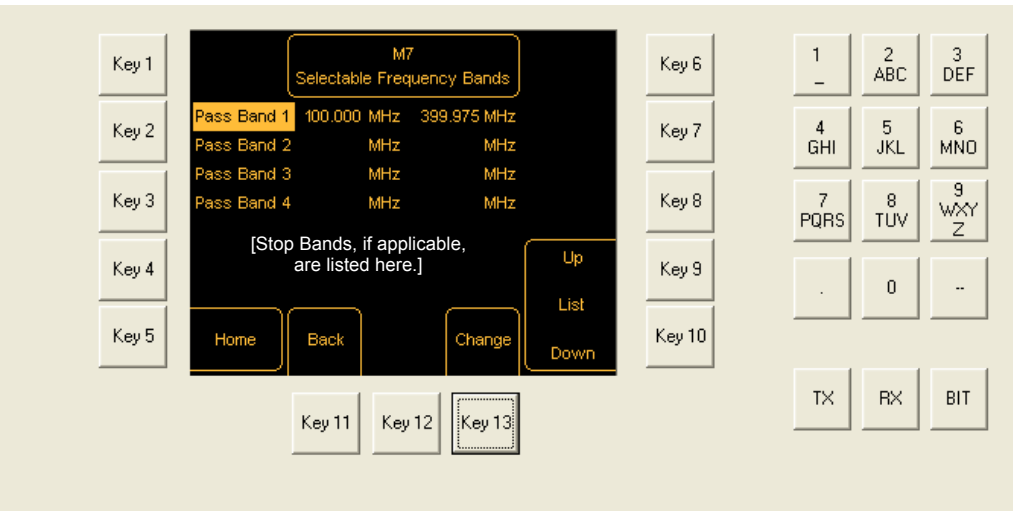

Fig 3-31 List of Pass Bands
Stop bands are factory set and cannot be created or changed by a user. Stop bands, if applicable, are listed below the pass bands (see Fig 3-31).
- (3) To view the pass bands, press Key 13 – Change. The pass bands are listed as shown in Fig 3-31.